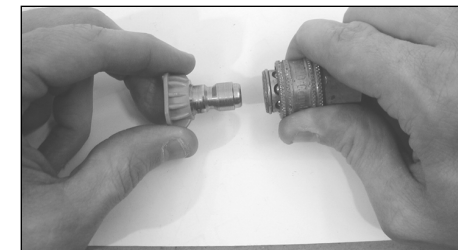

Figure 10 - Quick Connect Tip
10. Install quick connect tip, if applicable (See Figure 10).